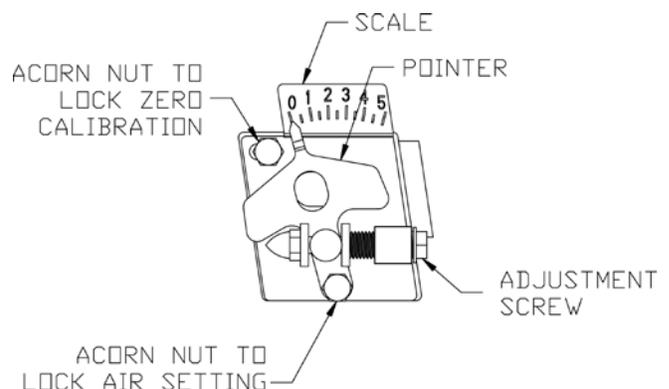

Figure 36: Head/Air Adjustment Plate Assembly
- m. Loosening the splined nut and lower acorn nut, and, turning the adjustment screw, either forward or, rearwards, will adjust the head/air plate. **DO NOT LOOSEN UPPER LEFT ACORN NUT**, which locks zero head/air setting. See Figure 36.
- a. Move the Head/Air Setting forward or back one position at a time to optimize the smoke and CO₂ readings. See Figure 36.